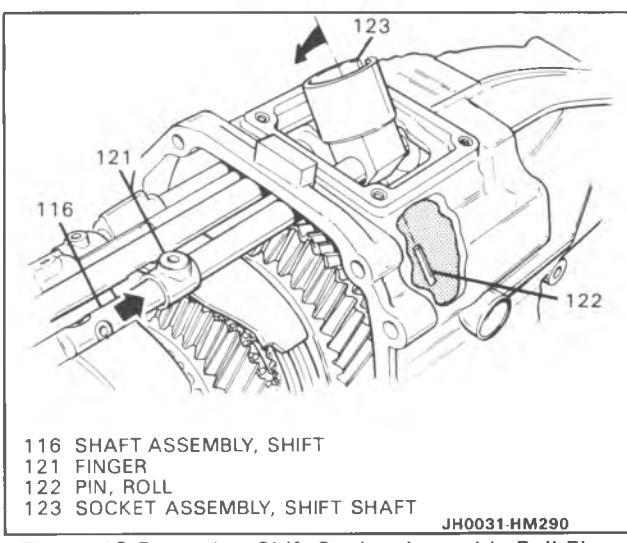

Figure 13 Removing Shift Socket Assembly Roll Pin
- Slide the shaft (116) all the way back and cocked over to the detent spring cover side.
17. Shift shaft socket assembly roll pin (122) (Figure 13).